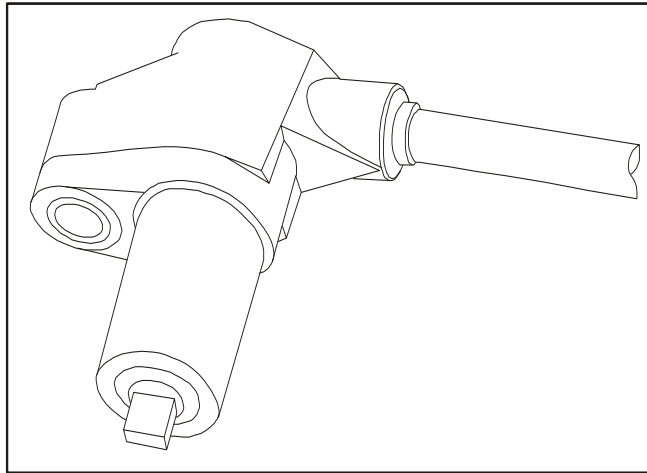

Fig.5-30 Head of Sensor
- 1) Keep the surface of sensor head (see Fig.5-30) clean.